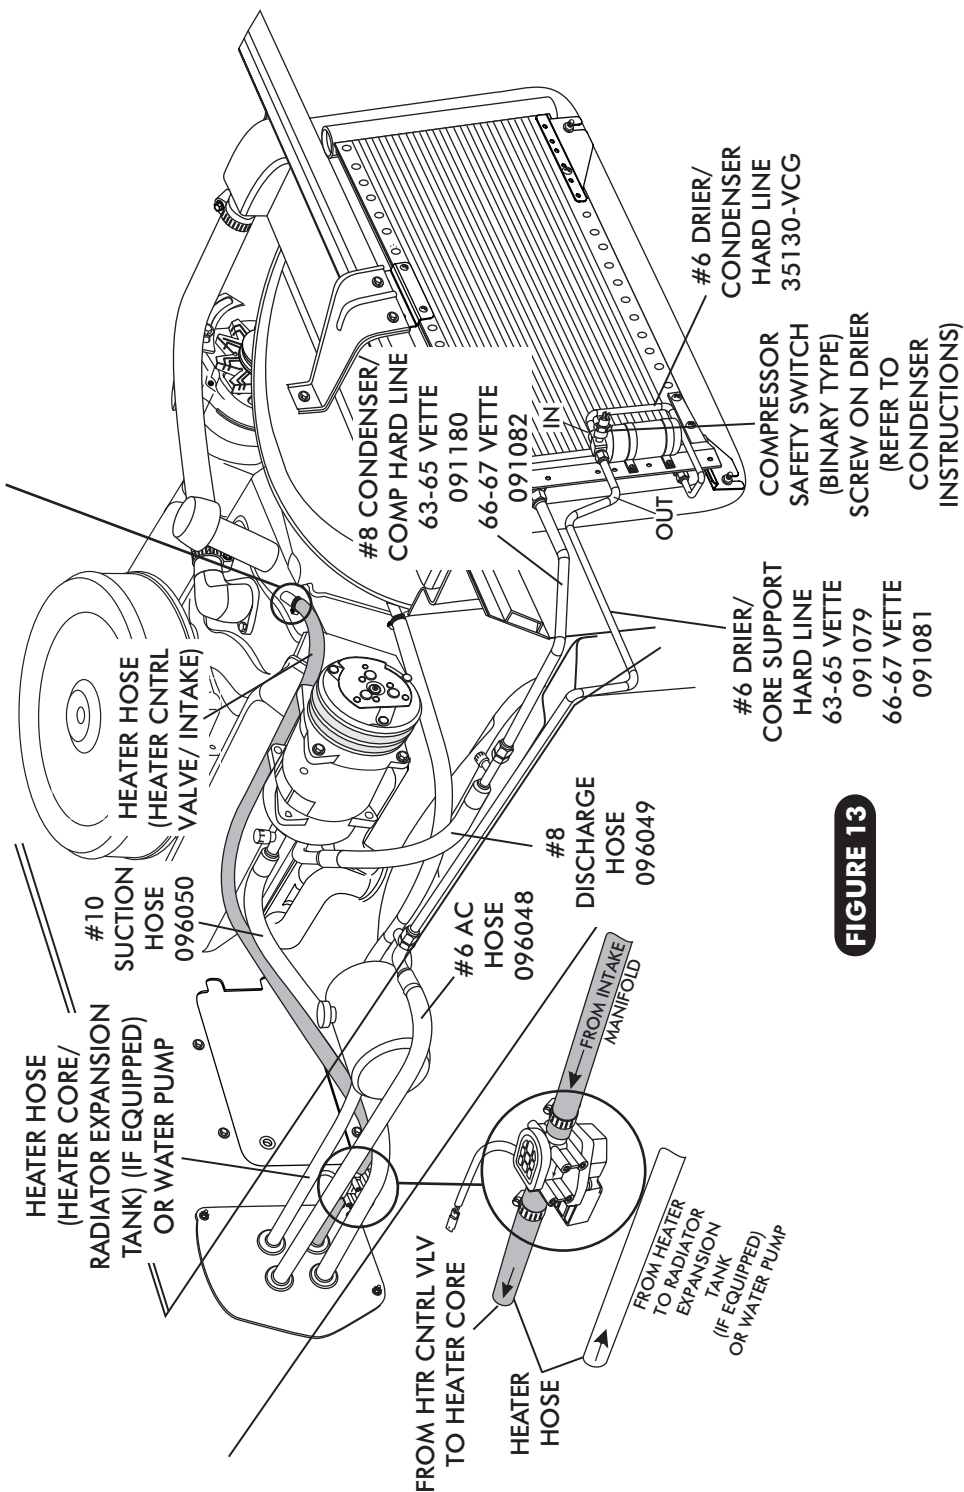

FIGURE 13
- ☐ LOCATE THE #8 COMPRESSOR A/C HOSE. LUBRICATE (2) #8 O-RINGS (SEE FIGURE 12, ABOVE) AND CONNECT THE 135° FEMALE FITTING TO THE #8 DISCHARGE PORT ON THE COMPRESSOR. ROUTE THE STRAIGHT FEMALE FITTING w/ 134a SERVICE PORT TO THE #8 CONDENSER HARDLINE COMING THROUGH CORE SUPPORT. SEE FIGURE 13 PAGE 14. TIGHTEN EACH FITTING CONNECTION AS SHOWN IN FIGURE 12 ABOVE.
- ☐ LOCATE THE #10 COMPRESSOR A/C HOSE. LUBRICATE (2) #10 O-RINGS (SEE FIGURE 12, ABOVE) AND CONNECT THE #10 STRAIGHT FEMALE FITTING w/134a SERVICE PORT TO THE #10 SUCTION PORT ON THE COMPRESSOR. ROUTE THE 90° FEMALE FITTING TO THE #10 EVAPORATOR. SEE FIGURE 10, PAGE 12 AND FIGURE 13, PAGE 14. TIGHTEN EACH FITTING CONNECTION AS SHOWN IN 12 ABOVE.
- ☐ LOCATE THE #6 EVAPORATOR A/C HOSE. LUBRICATE (2) #6 O-RINGS (SEE FIGURE 12, ABOVE) AND CONNECT THE 90° FEMALE FITTING TO THE DRIER HARDLINE. ROUTE THE 90° FEMALE FITTING TO THE #6 EVAPORATOR. SEE FIGURE 9, PAGE 12 AND FIGURE 13, PAGE 14. TIGHTEN EACH FITTING CONNECTION AS SHOWN IN FIGURE 12, ABOVE.
- ROUTE A PIECE OF HEATER HOSE FROM THE RADIATOR EXPANSION TANK (IF EQUIPPED) OR WATER PUMP TO THE TOP HEATER FITTING OF HEATER CORE AS SHOWN IN FIGURE 9, PAGE 12 AND FIGURE 13 BELOW. SECURE USING HOSE CLAMPS. **NOTE: OEM RADIATOR EXPANSION TANK OUTLET IS 3/4". (OPTION 1) USE GATES HEATER HOSE PART # 18084 3/4" x 5/8" x 60" (REFER TO PAGE 12) FOR HEATER HOSE MODIFICATION. (OPTION 2) 3/4 x 5/8 REDUCER FITTING IS REQUIRED (NOT SUPPLIED)**
- ROUTE A PIECE OF HEATER HOSE FROM THE INTAKE TO THE BOTTOM HEATER FITTING OF HEATER CORE AS SHOWN IN FIGURE 9, PAGE 12 AND FIGURE 13, BELOW. INSTALL HEATER CONTROL VALVE IN-LINE WITH INTAKE MANIFOLD (PRESSURE SIDE) HEATER HOSE, SECURE USING HOSE CLAMPS AS SHOWN IN FIGURE 13, BELOW. **NOTE PROPER FLOW DIRECTION.**